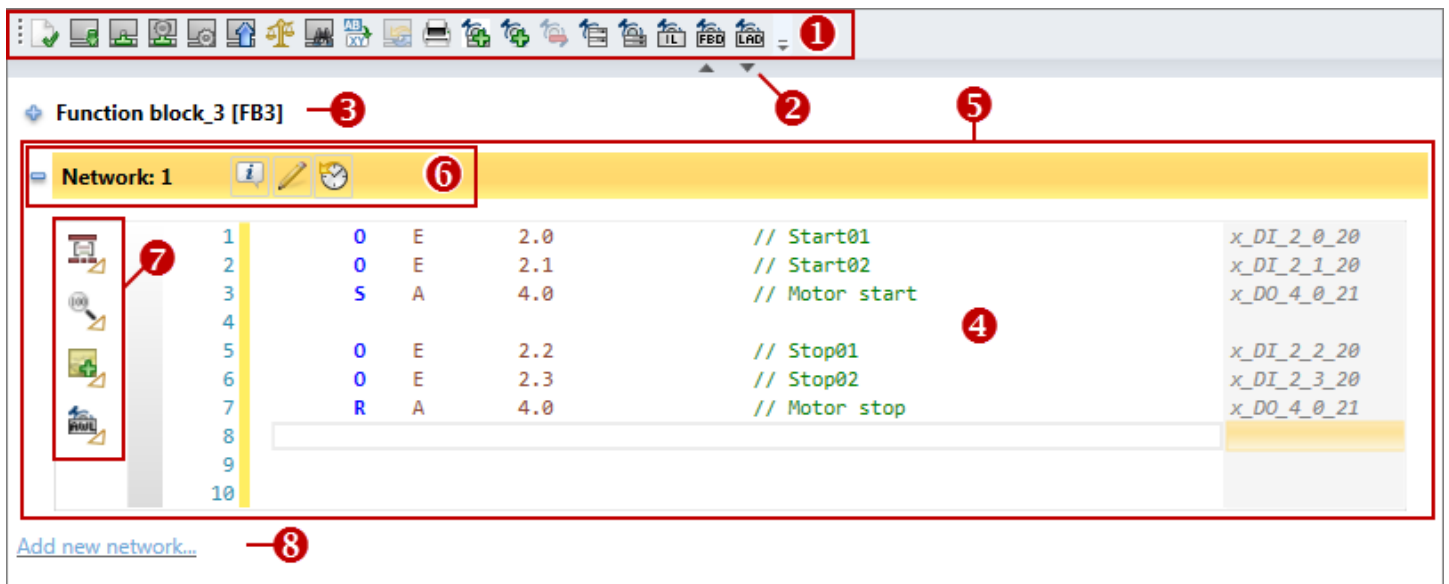

Fig. 149: Instruction section for the IL programming language as an example
**(2) Declaration section** In the declaration section (not shown in Fig. 149), you can define all variables used in the block. ↪ Chapter 8.5.1 'Declaration section' on page 197
**(3) Block information** Here you are provided with further information, and you can enter a title and comment on the block. The following buttons are displayed if you hover with the mouse over a field with the 'Block information'.
**(4) Input area** In the input area, you can give instructions in the IL and SCL programming language. Moreover, you can insert elements in the graphic programming languages FBD and LD.